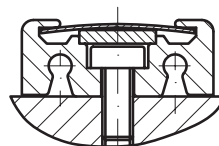

Fig. 7
- Push magnetic strip into the profile rail's groove (fig. 7).